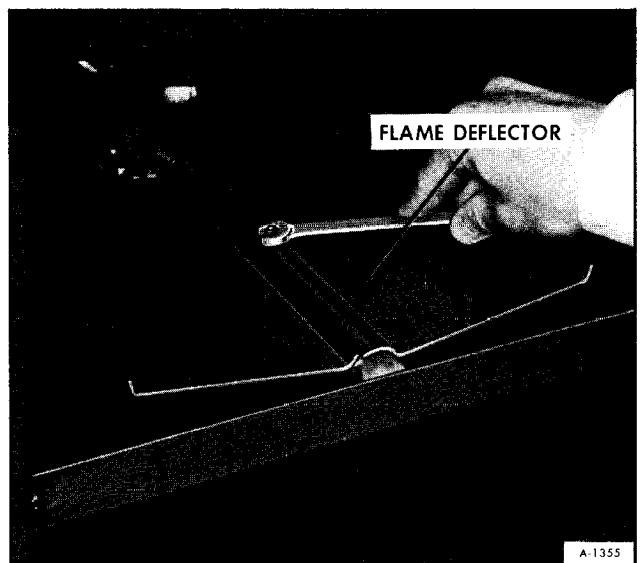

Figure 15-Removing Flame Deflector
4. Remove flame deflector (figure 15) from top of burner tube (held with one nut).